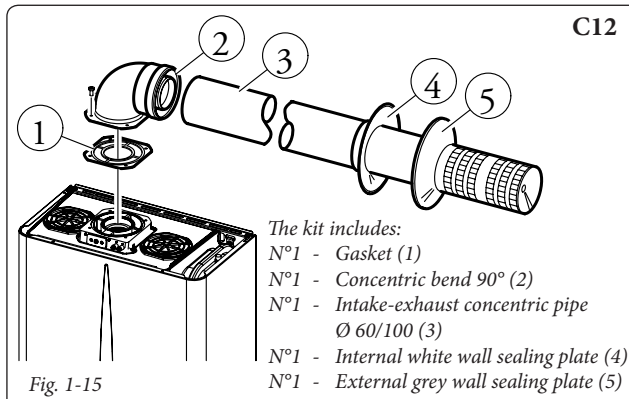

Fig. 1-15
Horizontal intake - exhaust kit Ø60/100. Kit assembly (Fig. 1-15): install the bend with flange (2) onto the central hole of the boiler inserting the gasket (1) and tighten using the screws in the kit. Couple the terminal pipe (3) with the male end (smooth) into the female end of the bend (with lip seals) up to the stop; making sure that the internal wall sealing plate and external wall sealing plate have been fitted, this will ensure sealing and joining of the elements making up the kit.